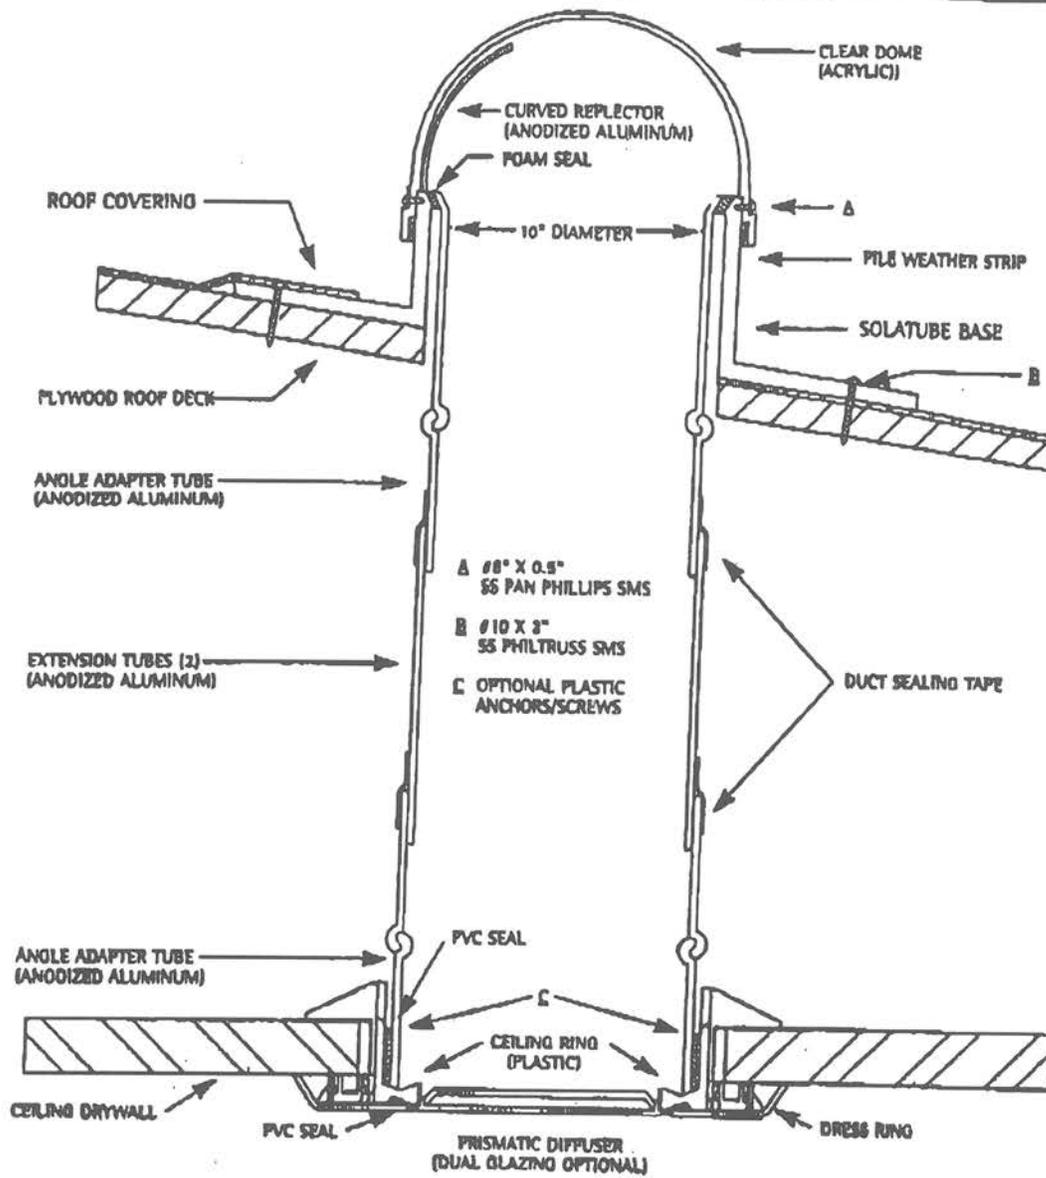
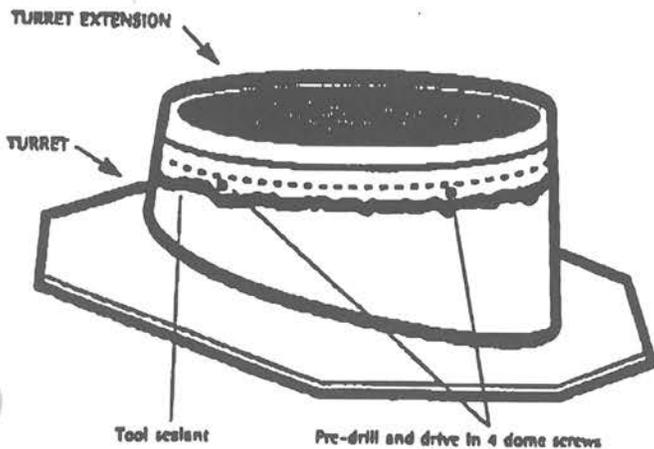

FIGURE 1
FIGURE 2
1. **Roof Slope less than 3:12:** On roof slopes of less than 3:12, the lowest edge of the base turret must be at least 4-inches above the plane of the roof. Application of the optional SOLATUBE 2-inch polypropylene turret extension satisfies this requirement. See Figure 2.
2. **Classified Roof Coverings:** Where Class A or Class B roof coverings are required, the lowest edge of the base turret must be at least 4-inches above the plane of the roof and the entire turret and dome edge must be protected by metal or other noncombustible materials. Application of the optional SOLATUBE 2-inch polypropylene turret extension over which is placed a SOLATUBE 0.040-inch-thick aluminum turret shroud, satisfies these requirements. See Figures 2 and 3. For additional details refer to Figures 1 and 2.